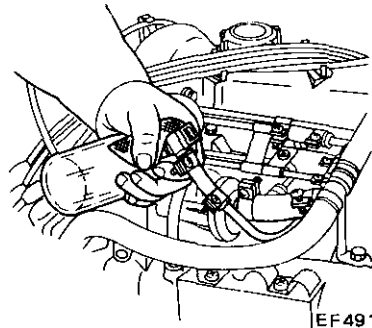

Fig. ER-1 Fuel injection from cold start valve
(1) Disconnect ground cable from battery.
(2) Disconnect ground lead wire (black) from fuel pump.
(3) Disconnect lead wire from S terminal of starter motor.
(4) Remove two screws securing cold start valve to intake manifold, and remove cold start valve.
(5) Connect ground cable to battery.
(6) Put cold start valve in a container of min. 20 cc (1.22 cu in) capacity. Turn ignition switch to START position, and release fuel line pressure. See Figure ER-1.